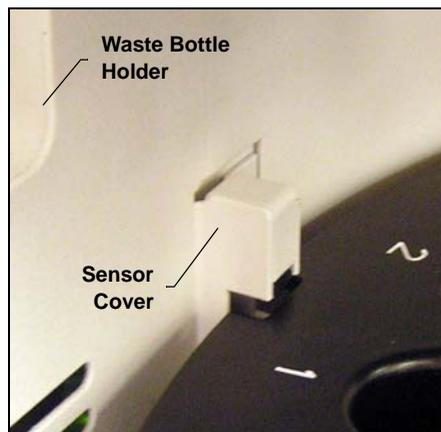

Figure 3-13. Cutout-Sensor Cover Alignment
6. Check that the cutout in the vial tray insert is aligned with the sensor cover on the inside wall (see Figure 3-13). Then, lower the tray insert onto the collection tray and firmly press it into place.